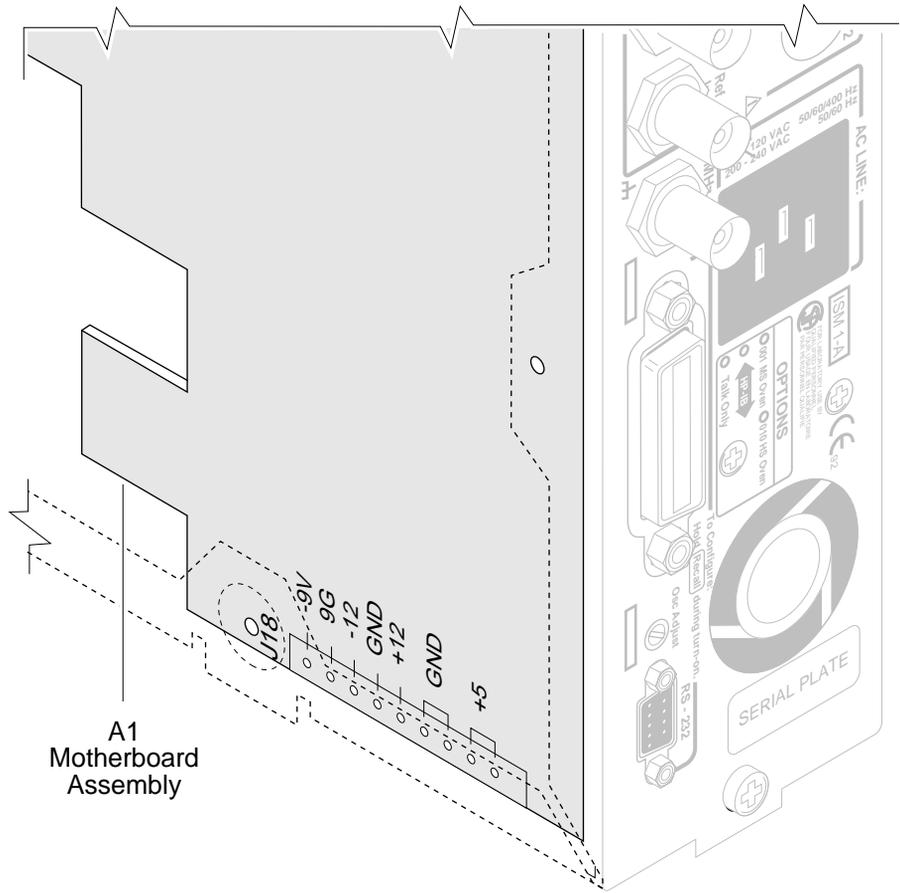

Figure 2-9. A4 AC Power Supply Testpoint Locations on A1 Motherboard Assembly (Bottom View)
- 4 Connect the negative lead of a voltmeter to the chassis and verify that the voltages in Table 2-4 match the voltages measured on connector J18 of A1 Motherboard Assembly. See Figure 2-9 for illustration of J18 viewing from the bottom of the Counter.**
BE CAREFUL to NOT short the positive-side lead of the voltmeter to the chassis when probing at the testpoints shown in Figure 2-9.